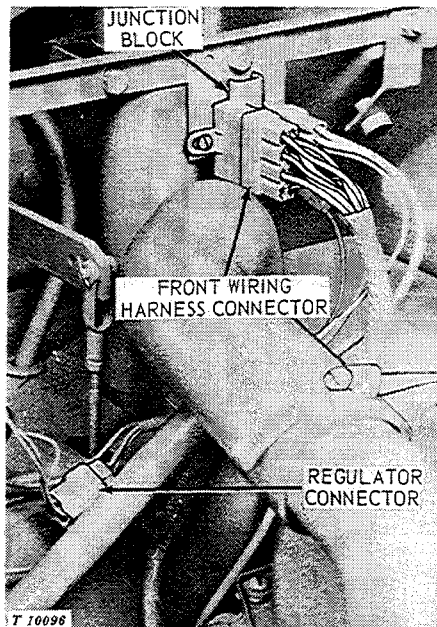

Fig. 20-5-4—Disconnecting Wiring
8. Disconnect front wiring harness connector at junction block (Fig. 20-5-4).